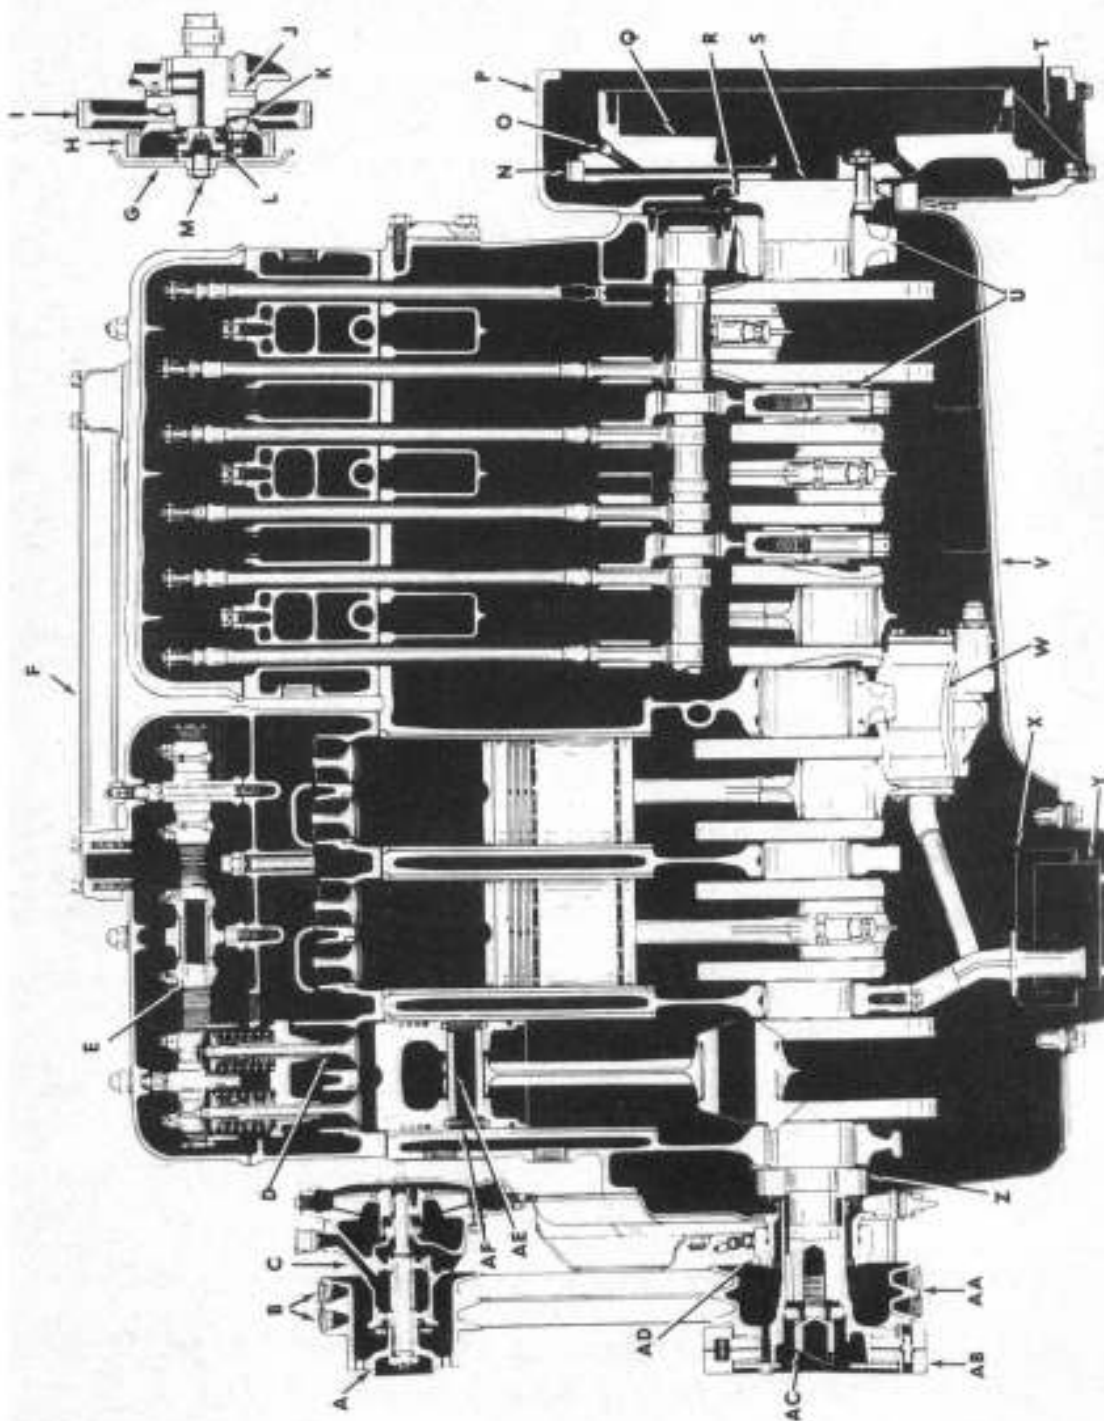

Figure 3—Longitudinal Cross-section of Engine
b. **Cylinder Block** (figs. 3, 4, and 5). The cylinder block is cast of a special alloy iron and has replaceable, "dry-type" cylinder sleeves or liners pressed into the cylinder bores. Water jackets extend the full length of the cylinders.
c. **Cylinder Heads and Valves** (figs. 3, 4, and 5). These are two
Legend for Figure 3—Longitudinal Cross-section of Engine